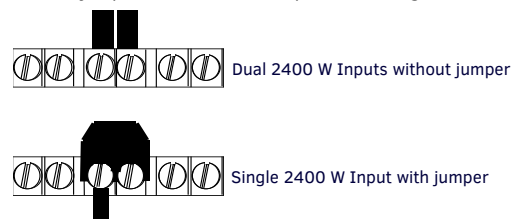

FIG. 3 LINE-IN CONNECTIONS
- With a jumper, Line 1 and Line 2 provides a single 2400 W input (FIG. 3).